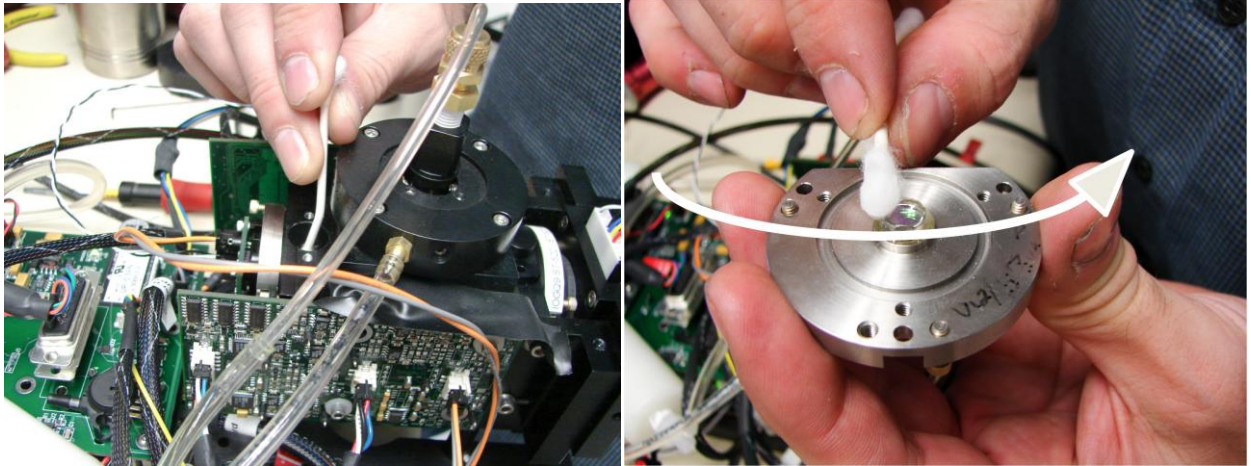

Figure 22: Cleaning the Optic
- 6.) Using a Q-tip and spectra-photo grade acetone, clean the optic. Figure 22-left shows the Q-tip inserted in the cleaning port, while Figure 22-right shows the desired motion on a stand-alone mirror mount. A gentle swipe in one direction across the middle portion of the optic seems to work the best. DO NOT use a scrubbing or circular motion, as this tends to spread around any contamination